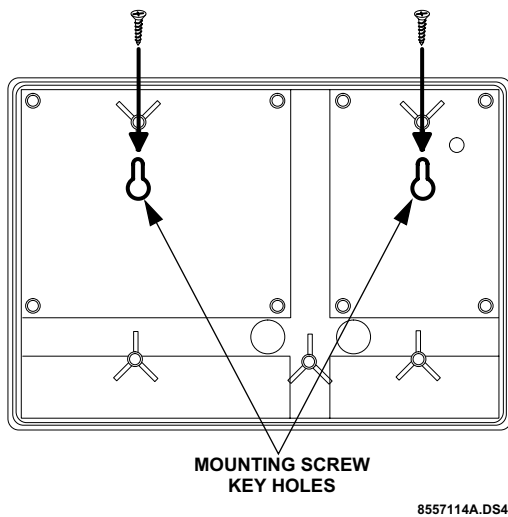

Figure 2 Mounting Hole Locations
- Place the back box on the wall at the desired location and mark mounting holes (figure 2).